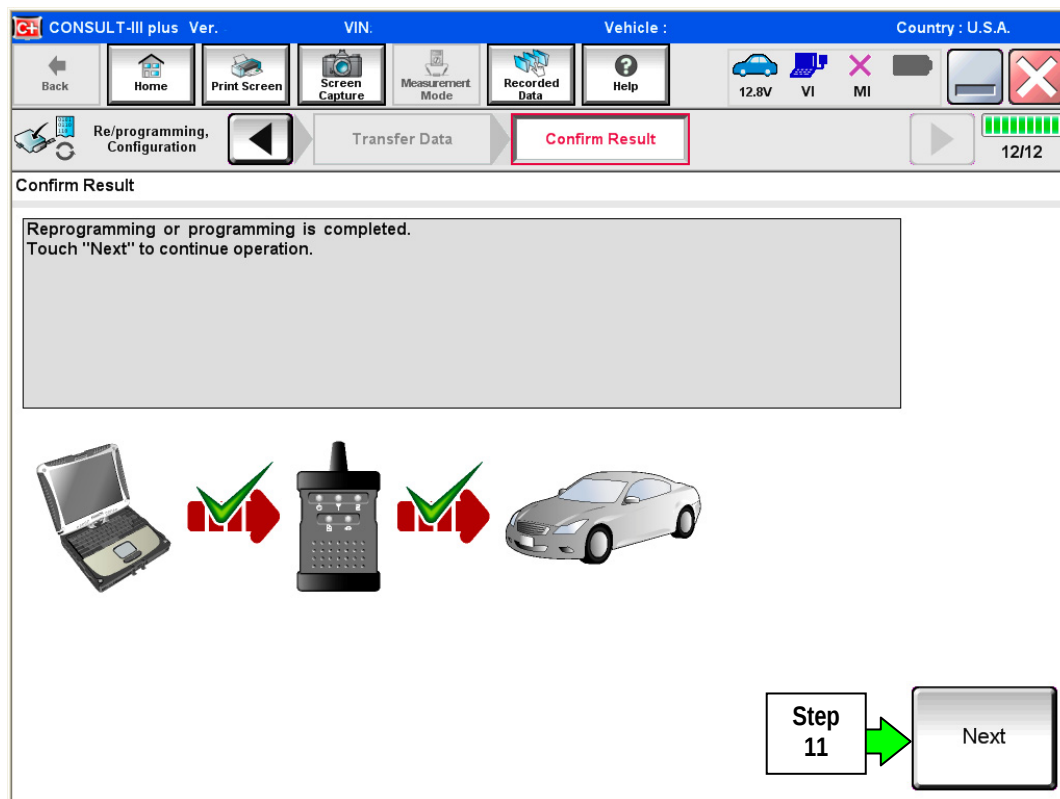

Figure 5
9. When the screen in Figure 5 displays, reprogramming is complete.
NOTE: If the screen in Figure 5 does not display (reprogramming does not complete), refer to the information on the next page.